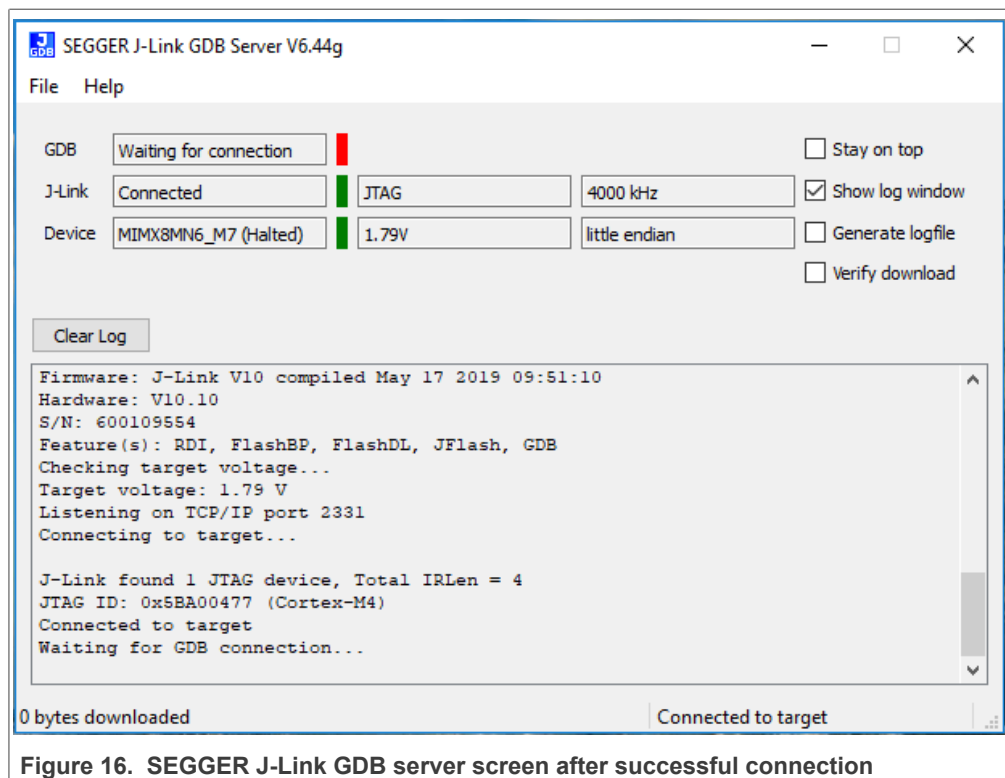

Figure 16. SEGGER J-Link GDB server screen after successful connection
3. After GDB server is running, the screen should resemble Figure 16: